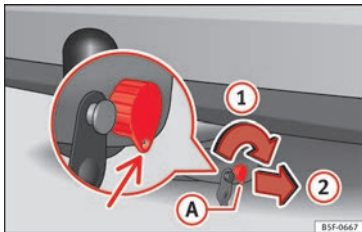
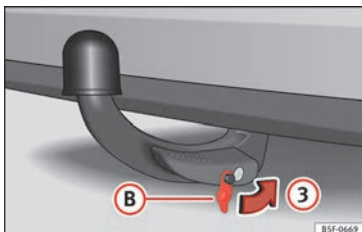

Fig. 183 Locking the lock.
Fig. 184 Placing the cover over the lock.
- Turn key (A) in the direction of arrow (1) until the part of the key with the holes reaches the bottom position » Fig. 183.
- Remove the key in the direction of arrow (2).
- Place cover (B) in the lock in the direction of arrow (3) » Fig. 184 » ①.